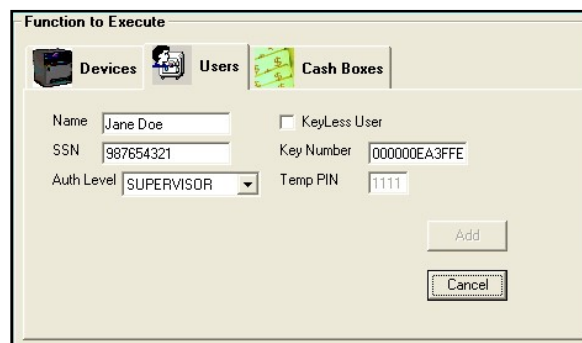

Fig. 8.21
- When enrolling a new user, the set up screen will appear. The available user options are Name, SSN, Authorization Level, Keyless User, and Key Number (Fig. 8.21)